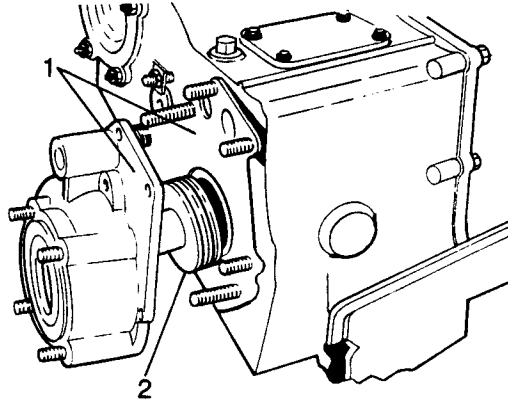

Fig H1.15
- (1) Refer to Fig H1.15. Replace the speedometer drive (2).
- (2) Fit the speedometer cover together with its shims (1).